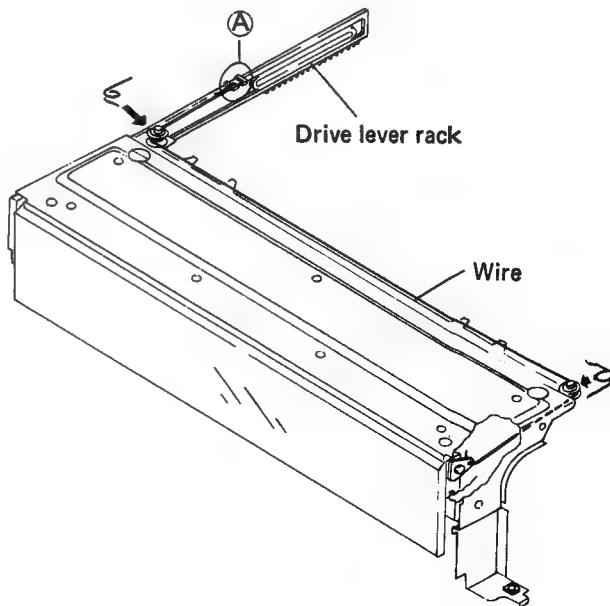

Fig. 1-20 Door angle Ass'y
3. Undo screws ② and remove the front panel (operation panel). This panel can be removed altogether if connector ⑤ is disconnected.
4. Undoing screws ③ enables removal of the door angle unit. Since the drive lever rack for opening the door engages the main gear in this door angle unit, perform this operation with due care (see Fig. 1-20).
The wire supporting the left hand side of the door when the door is opened and closed is wound once around each pulley and fixed to point ④ shown in Fig. 1-20 to ensure adequate tautness in the wire.
5. Undo screws ① and carefully lift the escutcheon cover upwards to remove it.